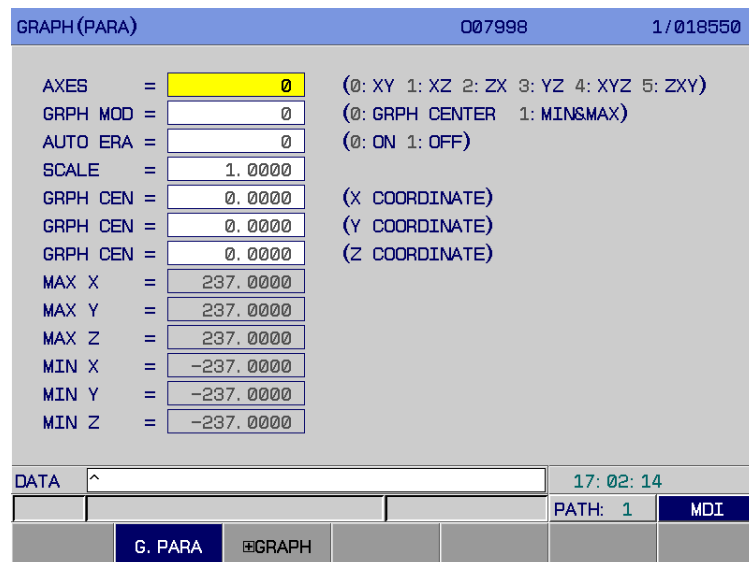

Fig. 3-5-1
1) Graphic parameter page: Press soft key **【G. PARA】** to enter this page, see Fig.3-5-1.